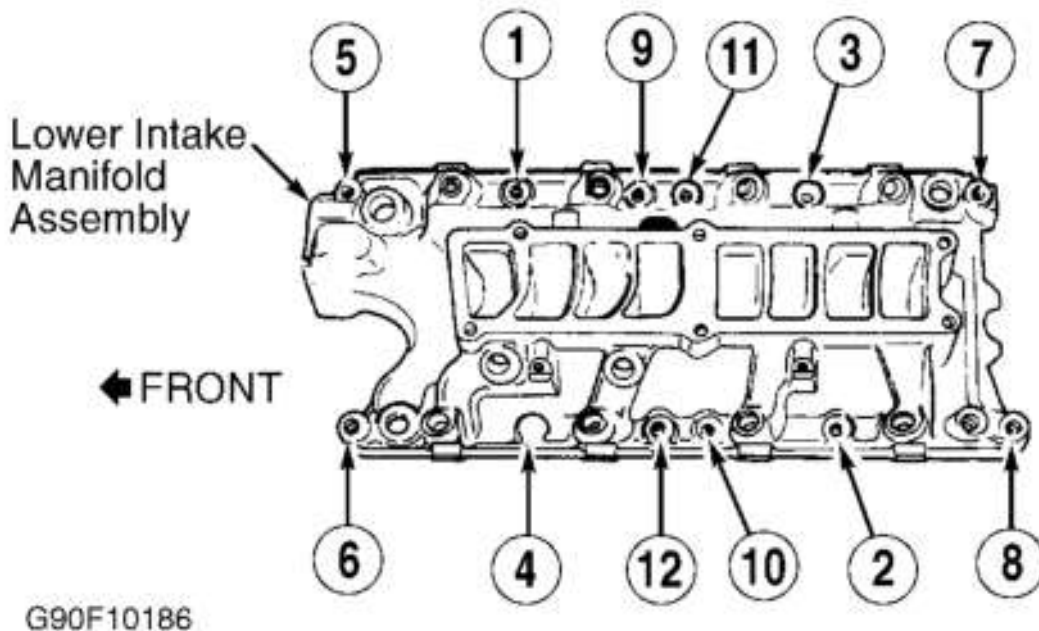

Fig. 3: Lower Intake Manifold Bolt Tightening Sequence
2. Ensure gaskets are interlocked with end rubber gaskets. Install 2 guide pins in opposite corners. Install lower intake manifold and tighten bolts finger tight. Tighten bolts evenly in sequence to specification. See **Fig. 3**. See **TORQUE SPECIFICATIONS**. To complete installation, reverse removal procedure. Fill and bleed air from cooling system. See **COOLING SYSTEM BLEEDING**.